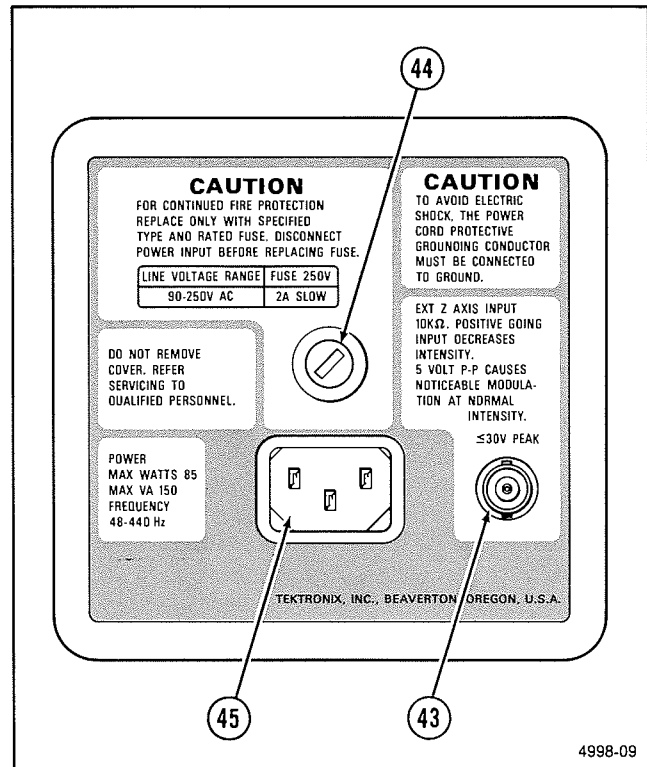

Figure 3-6. Rear panel.
Refer to Figure 3-6 for location of items 43 through 45.